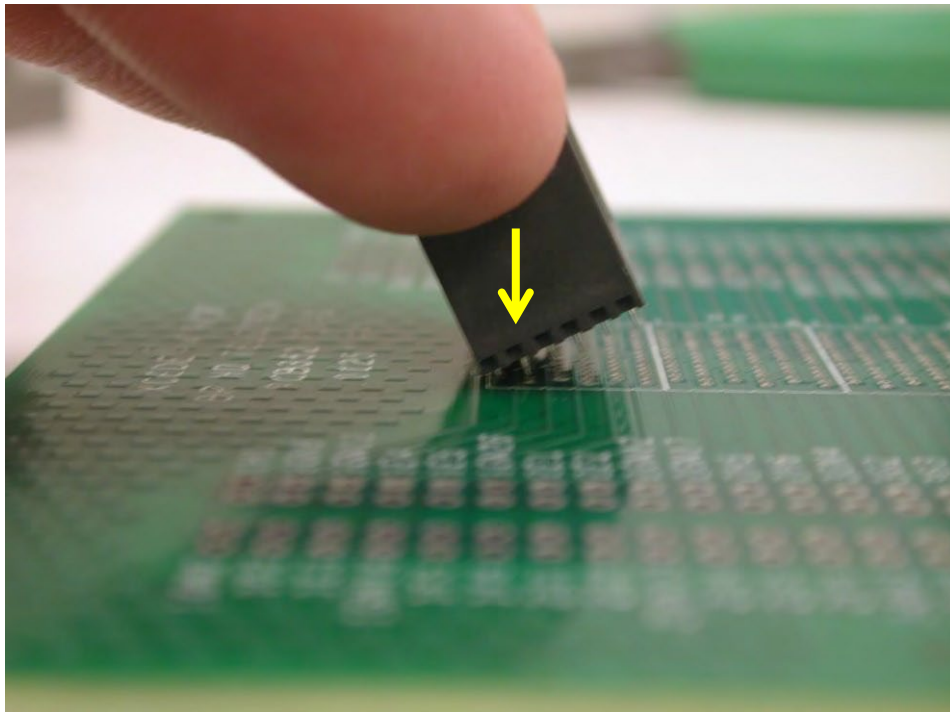

Figure 2: Leftmost row of compliant pins in the PTH.
Step 6. Hold the connector up off the PCB and place the row of compliant pins, opposite to the tabbed side of the backplane, into the correct plated through hole (PTH), see Figure 2. With the front of the connector still up off the board, roll the connector right to left, into the remaining PTHs, see Figures 3-4.